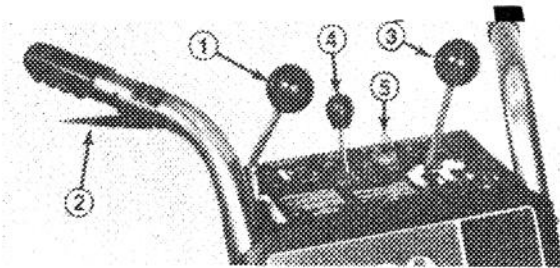

Figure 15
**Auger Drive Control (Fig. 15)** – Control has two positions: ENGAGE and DISENGAGE. To engage auger and impeller, push control forward until it stops in an over center position. To disengage auger and impeller, pull control backward.
**Interlock Lever (Fig. 15)** – Interlock lever must be compressed against right handle grip when auger drive or wheel drive control is engaged. The engine will shut off if lever is released when auger drive or wheel drive control is engaged. This is a safety feature that reminds the user to disengage auger drive and wheel drive controls before leaving operator's position behind the handles.
**Wheel Drive Control (Fig. 15)** – The control has seven positions: N—neutral (2), R1 and R2—reverse, 1, 2, and 3. To change speeds, move gear shift to position desired. Control must be held in R—reverse—when backing and when it is released, gear shift automatically returns to neutral. Use positions 1, 2, and 3 depending on snow conditions. Keep interlock lever compressed when shifting.
**Throttle (Fig. 15)** – Moving the throttle forward increases engine speed. Use only enough engine speed to throw snow to the place desired.
**Ignition Switch (Fig. 15)** – Switch has two positions: ON and OFF. Rotate key to ON before starting engine with the recoil starter. To stop engine, rotate key to OFF.